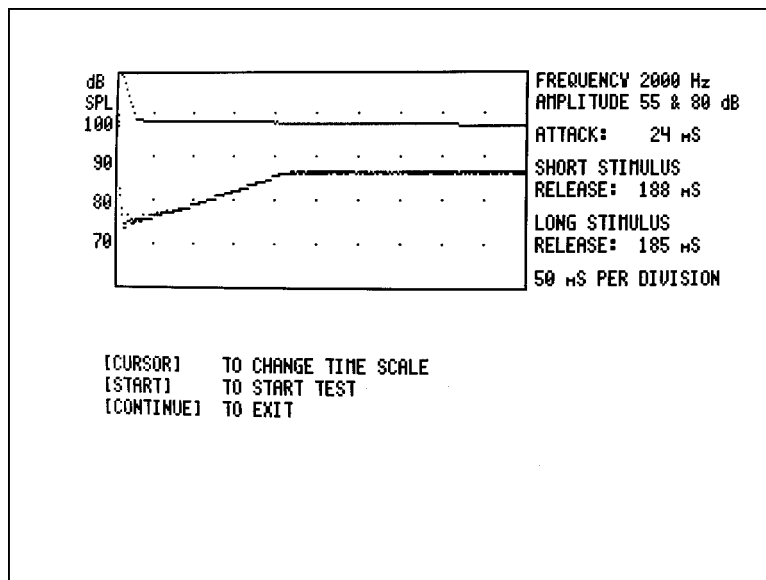

Figure 7.1.2—Adaptive attack and release test results
It performs a 2000 Hz attack test, followed by a special, two-signal release test consisting of a short signal (1/10 second) and a long signal (2 seconds). You can select whether the signal level varies between 55 and: 75, 80, 85, 90, or 95 dB SPL (80 is standard). The results are displayed numerically and graphically on the screen (Figure 7.1.2).
6. Once the results are displayed (as in Figure 7.1.2), press [CURSOR] to select the graph time scale that gives the clearest viewing (50, to 100, 200, 25, and then back to 50 milliseconds per horizontal division on the graph).